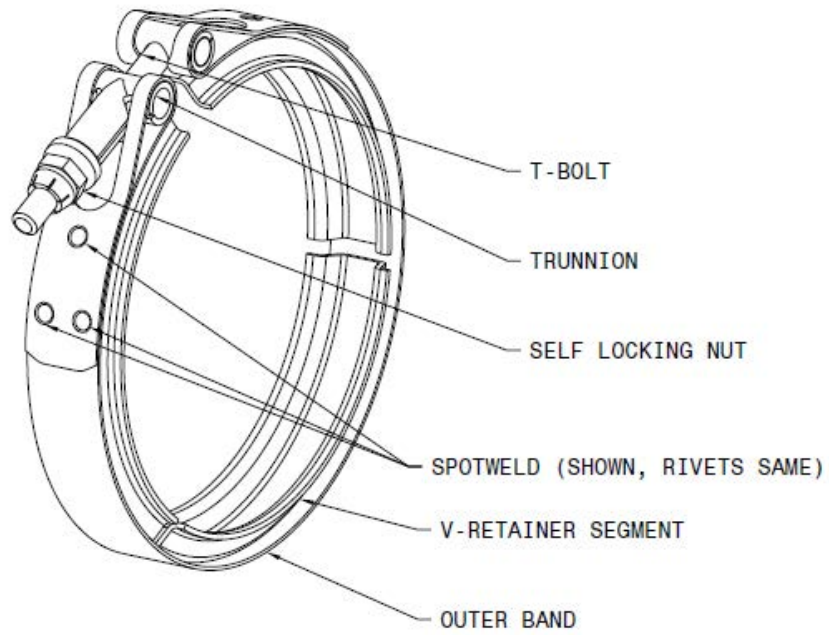

Figure 1
Multi-Segment, V-band *Couplings* come in two varieties: spot-welded and riveted (aka; collared fastener). The two varieties typify the method of joining of the outer flat band to the inner V-retainer segments, and all other metal-to-metal joints on the coupling. In this application, the couplings come in either two or three segment varieties. The segments are the number of V-retainer segments, which are attached to the outer band via spot-welds or rivets. Materials used throughout are various stainless steel alloys or Inconel's. The single-piece T-bolt may be straight or have a manufactured bend at the 'T' head by design. Couplings may also have a quick release latch to capture the T-bolt head. The self-locking nut is typically a high temperature steel alloy that is often silver coated. The self-locking nut is all-metal and the locking feature is a mechanical interference type with no polymer inserts. Couplings typically do not use washers under the nut as the trunnion housing is formed flat to act as a washer surface for the nut. Refer to Figures 1 thru 6 on the following pages.
Although not as widely used as the spot-welded, multi-segment V-band couplings, riveted (aka; collared fastener) multi-segment, V-band couplings are approved on various make/model aircraft. A riveted coupling is almost identical with the exception of spot-welds being replaced with a similar number of rivets or collared fasteners to join the materials. Refer to Figure 1, 2, and 6.
3.0 INSTALLATION [Refer to Section 1.2.1 and Figures 1, 7, 9-14, 16 & 17]